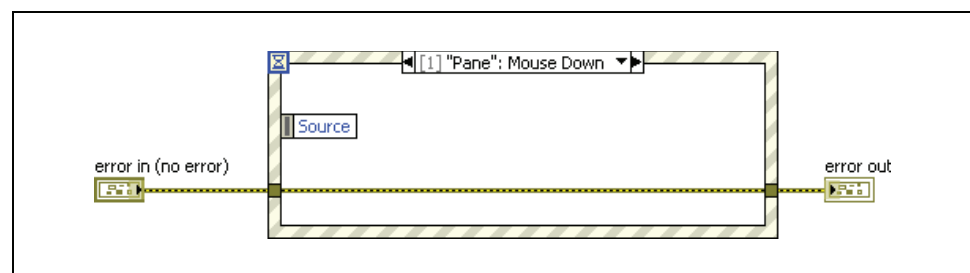

Figure 10-1. About VI Block Diagram
3. Switch to the block diagram and add code to close the dialog box when the user clicks the mouse button anywhere on the VI, as shown in Figure 10-1.